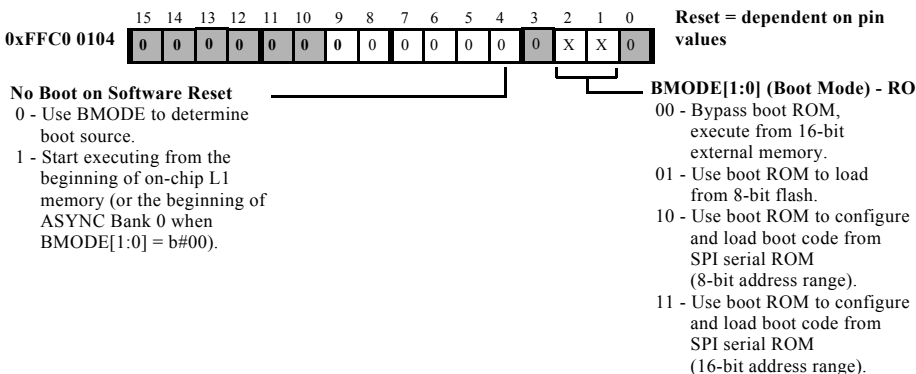

Figure 2-16. ADSP-BF533 Processors: SYSCR Register
2. Checks whether the RESET was a software reset and, if so, whether to skip the entire sequence and jump to the start of L1 memory (0xFFA0 0000 for ADSP-BF533/BF534/BF536/BF537/BF539 processors; 0xFFA0 8000 for ADSP-BF531/BF532/BF538) for execution. The on-chip boot ROM does this by checking bit 4 of the System Reset Configuration Register (SYSCR). See Figure 2-16. If bit 4 is not set, the on-chip boot ROM performs the full boot sequence. If bit 4 is set, the on-chip boot ROM bypasses the full boot sequence and jumps to the start of L1 memory.